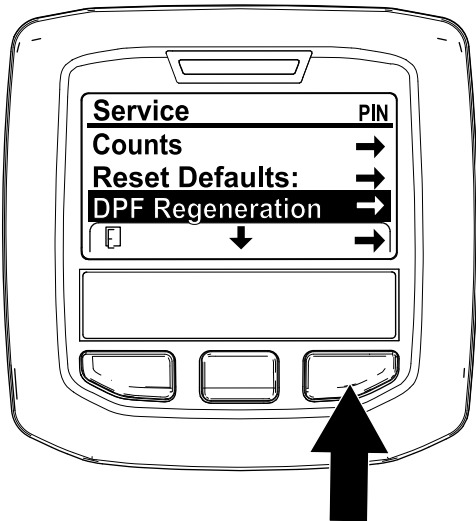

Figure 28
- 1. Access the Service menu, press the center button to scroll down to the DPF REGENERATION option (Figure 28).
- 2. Press the right button to select the DPF Regeneration entry (Figure 28).